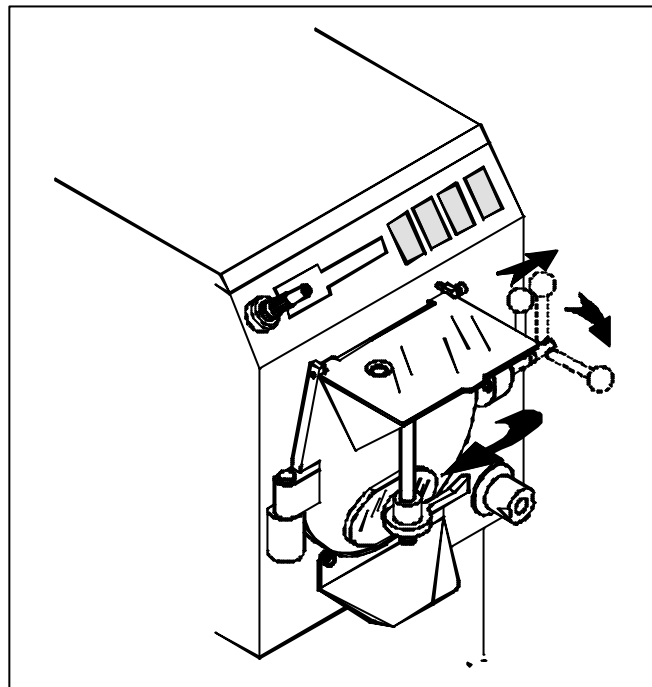

Figure 13
- Lift the door locking lever and shift it to the right (ref. Fig. 13).
- Open the door by rotating it on its hinge (ref. Fig. 13).